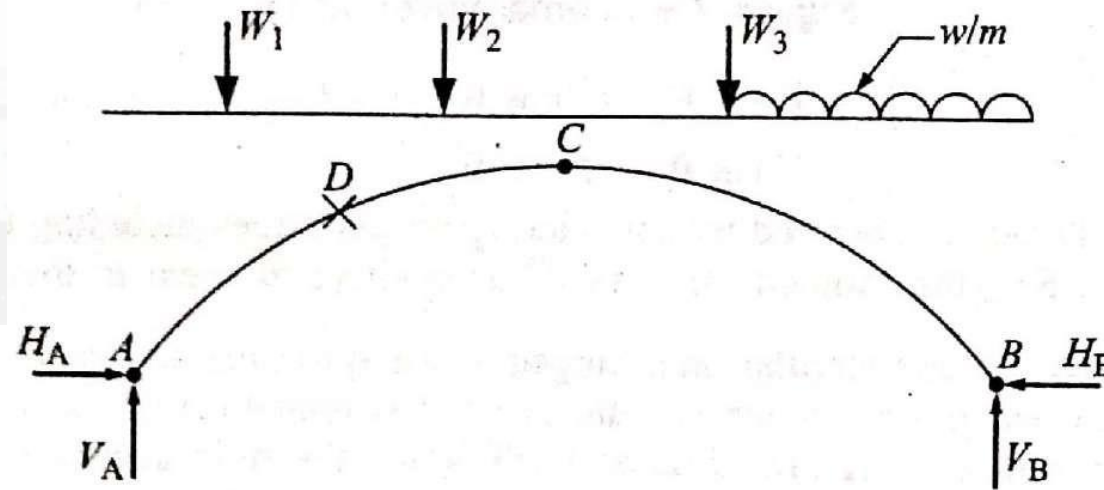

Figure 6: Three-hinged arch with load
- Consider a three-hinged arches as shown in Figure 6.